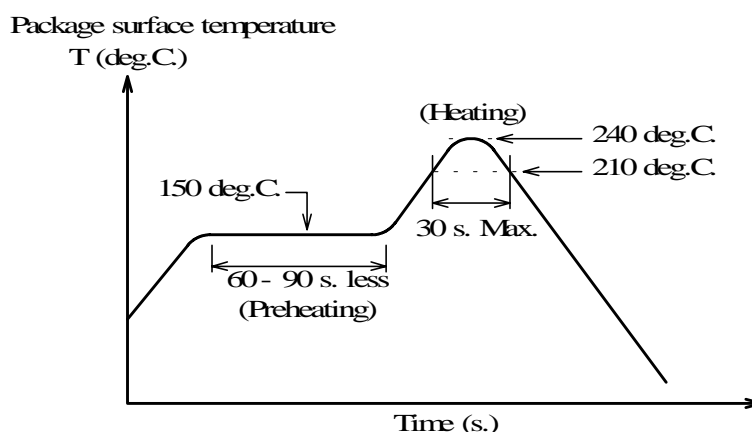

Fig.6 (Temperature Profile)
2. The temperature must be kept at not less than 210deg.C. for 30 seconds or less while the package surface temperature must not go above 240deg.C.. A recommended temperature profile is shown in **Fig.6**.
2. A recommended temperature profile is shown in **Fig.6**.